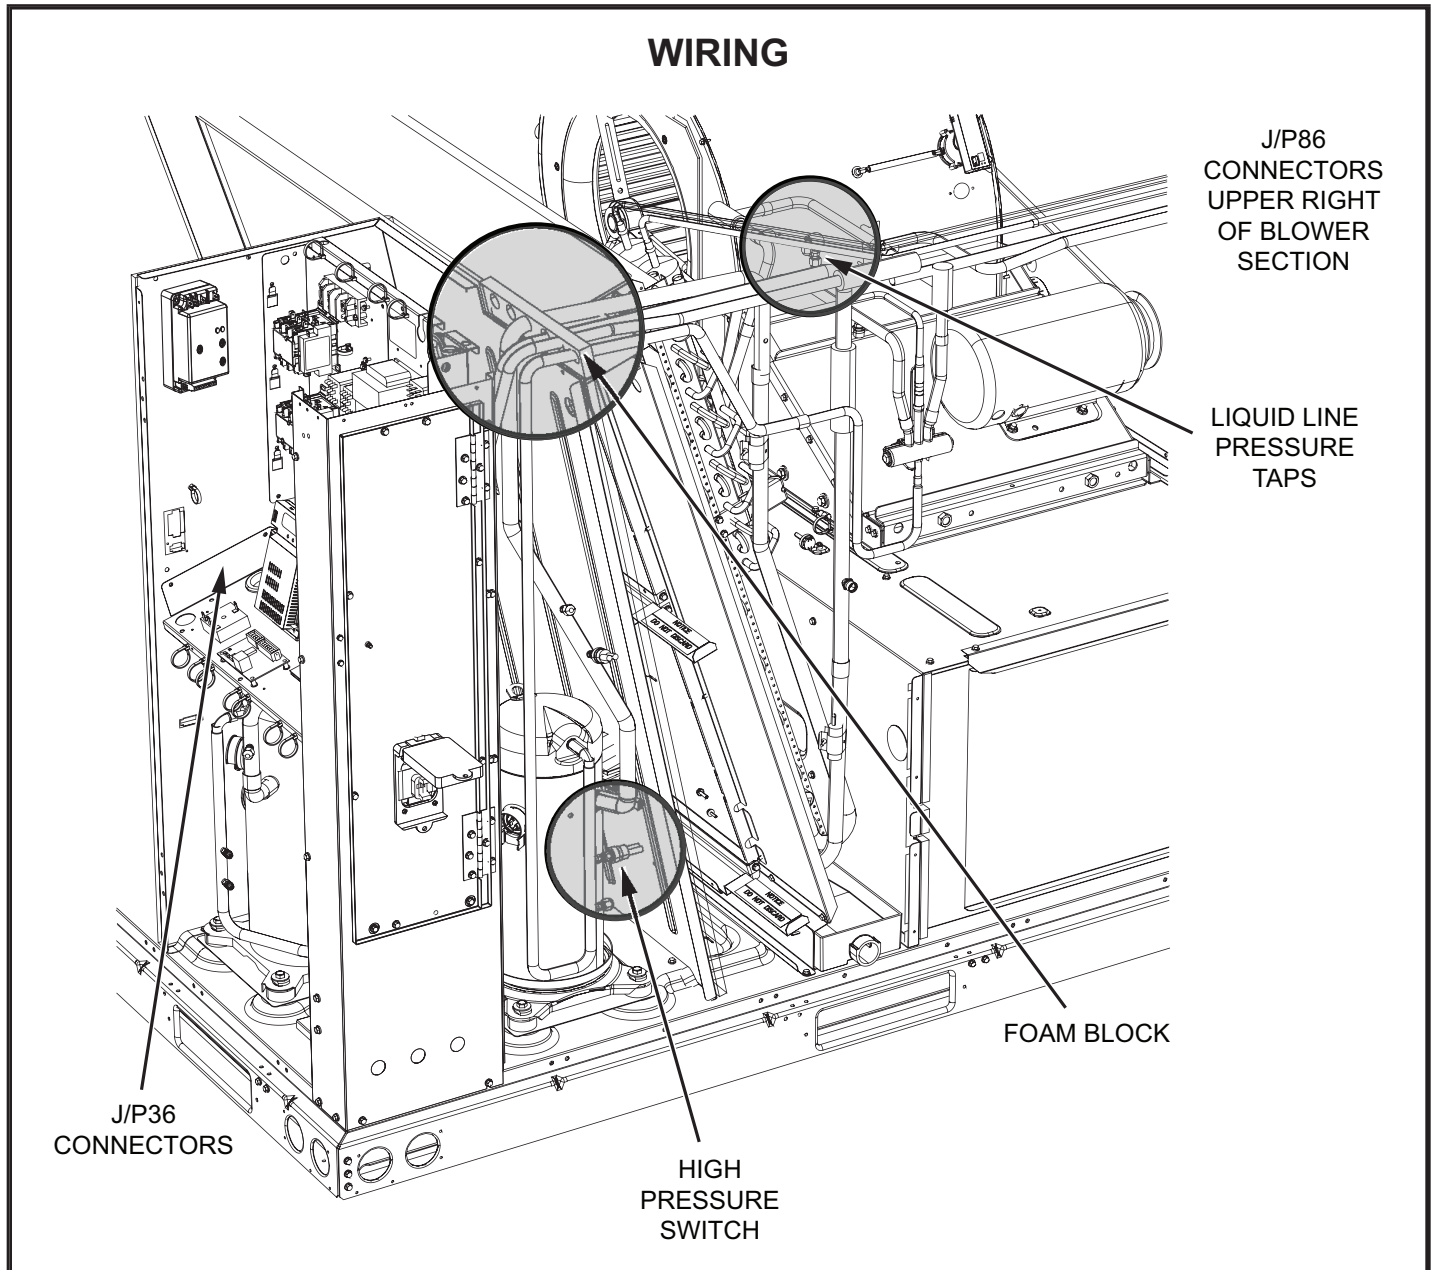

FIGURE 2
- 1 - If present, disconnect and discard low pressure switches from each liquid line. See figure 2.
- 1 - Lift the unit top and prop open near the foam block. See figure 2.
Disconnect J/P36 connectors in the lower left area of the control box. See figure 2.
Disconnect J/P86 connectors located in the upper right of the blower section. See figure 2.